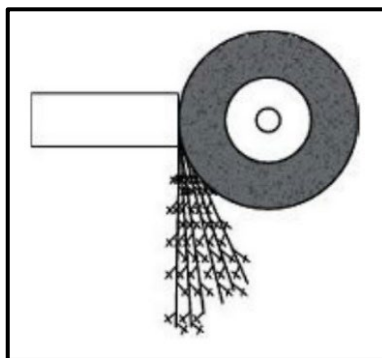

FIGURE 1.4
- 1.4 FIGURE 1.4 below shows a spark test being conducted. Identify the type of material with reference to the spark pattern. (1)